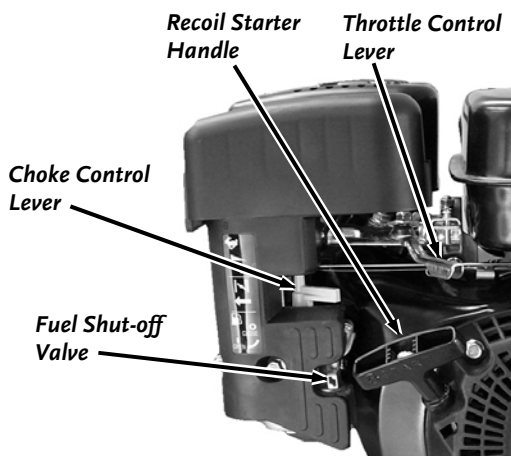
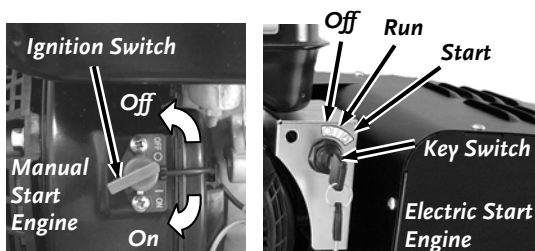

Figure 7
Figure 8
2. Make sure the fuel shut-off valve is in the "ON" position (**Figure 7**).
5. Manual Start: Turn the Ignition Switch to the "On" position (**Figure 8**). Grasp the recoil starter handle and slowly pull until you feel resistance (**Figure 7**). Let the cord retract a little bit then pull the cord rapidly to start the engine. One or two pulls usually starts the engine.
6. Electric Start: Turn and hold the Key in the "Start" position until Engine starts then let the Key return to run position (**Figure 8**).
7. Move the choke control lever (if used for cold engine) slowly back to the OPEN position (to the right) when the engine is running well (**Figure 7**).
2. Manual Start: Turn the Ignition Switch to the "Off" position (**Figure 8**).